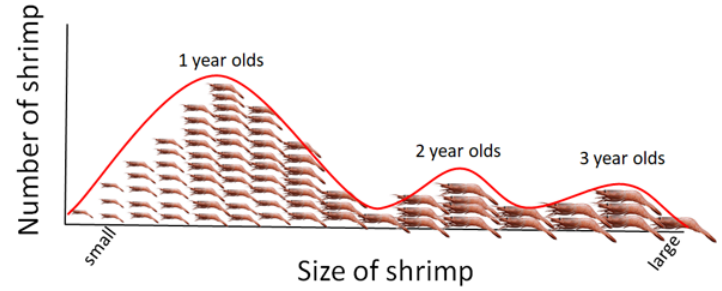

Figure 16. Hypothetical multimodal size distribution of shrimp
Measurements of shrimp size are aggregated by time and area, then analyzed to understand population trends. Each graph tells a story; in the example to the right (Figure 16), there are many age 1 shrimp, then a few age 2 and 3. While a single graph is like a picture, comparing changes in these graphs over time gives a bit of a moving picture. The horizontal (X) axis of these graphs indicates the size of the shrimp (larger as you move to the right); the vertical (Y) axis shows the relative